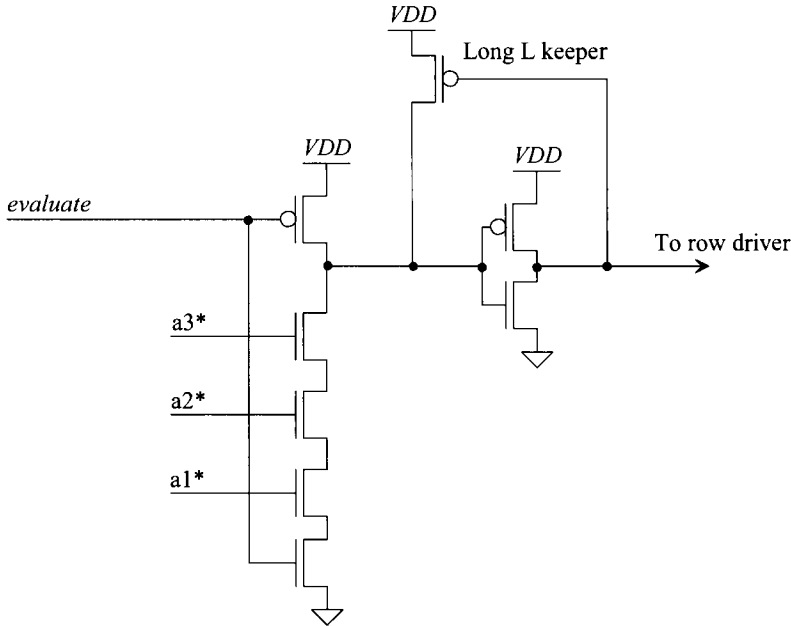

Figure 16.44 3-bit PE decoder.
Another technique to reduce decoder layout size uses the precharge-evaluate (PE) logic, Fig. 16.44, discussed in Ch. 14. This figure shows a 3-bit input decoder. The output of the circuit goes high when the input address is 000. Using the long-length keeper MOSFET makes the dynamic circuit operate as a static circuit. Variations of this circuit are common in commercially available memories.